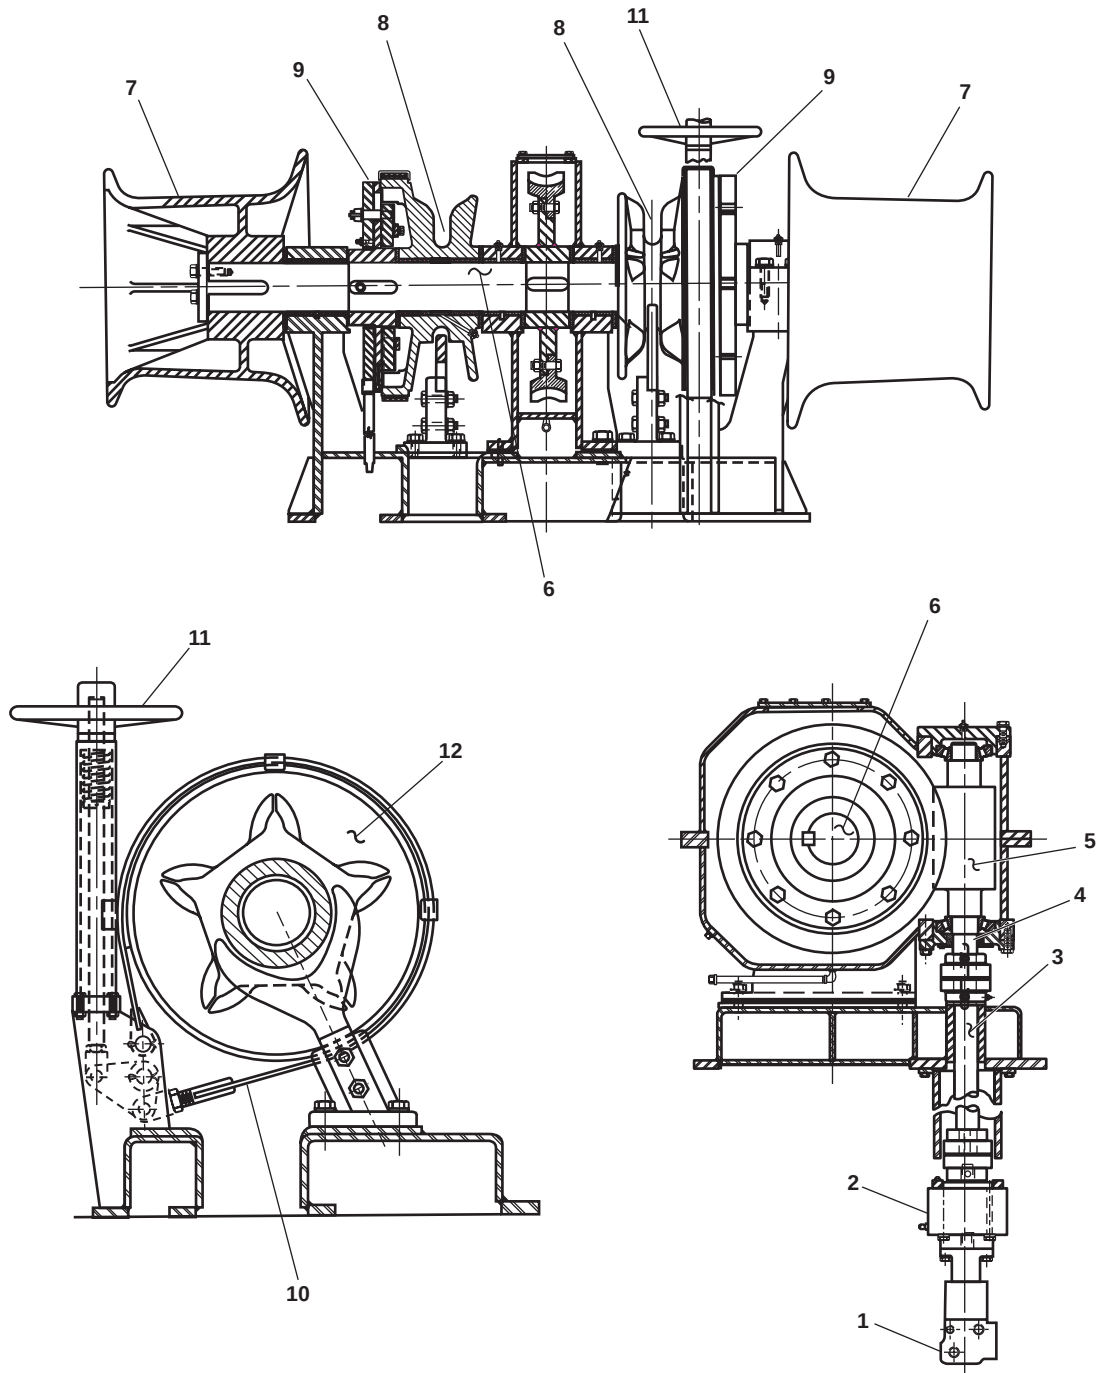

Figure 9. Anchor Windlass Mechanical Operation
Output from the anchor windlass motor (figure 9, item 1; figure 8, item 8) goes through the fail safe brake (figure 9, item 2; figure 8, item 9) and to the driveshaft (figure 9, item 3). The driveshaft turns the input shaft (figure 9, item 4) of the worm gear (figure 9, item 5) that rotates the anchor windlass main shaft (figure 9, item 6). The main shaft is permanently fixed to the gypsy heads (figure 9, item 7), therefore the gypsy heads rotate whenever the anchor windlass motor (figure 9, item 1; figure 8, item 8) rotates. The wildcats (figure 9, item 8) can be connected to the main shaft via a dog clutch (figure 9, item 9). The dog clutch permits the gypsy heads to rotate separately from the wildcats, thus the lines can be handled by the gypsy heads without disturbing the anchor chains.
Manual braking is provided for the wildcats (figure 9, item 8) by band brakes (figure 9, item 10). Each wildcat is provided with a band brake providing individual control for each anchor chain. The band brakes are actuated by turning the brake handwheel (figure 9, item 11). The brake handwheel tightens the brake band around the wildcat drum (figure 9, item 12), slowing or stopping wildcat rotation.